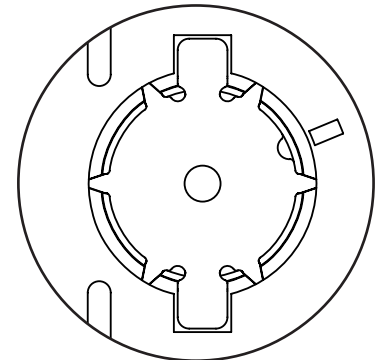

FIGURE 4
7. Install Cover Insert (P/N 705003). Align the notch of insert with the mark on the back cover, see **Figure 4**. Press the insert into the cover using even pressure. The insert is designed to prevent spline key movement. Once installed do not attempt to remove the insert. Remove the back cover to service the lock; this will not void the factory warranty.